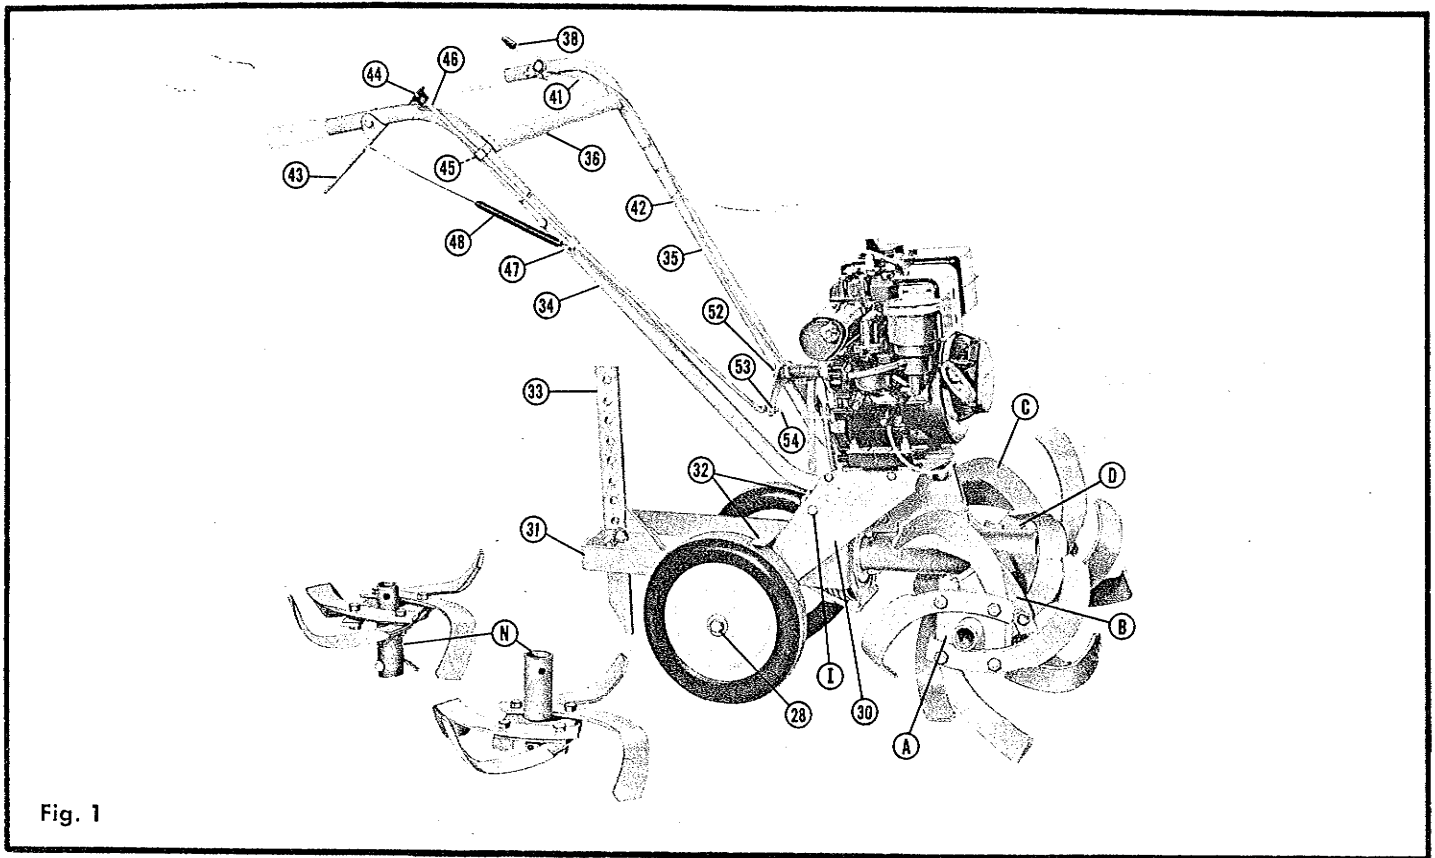
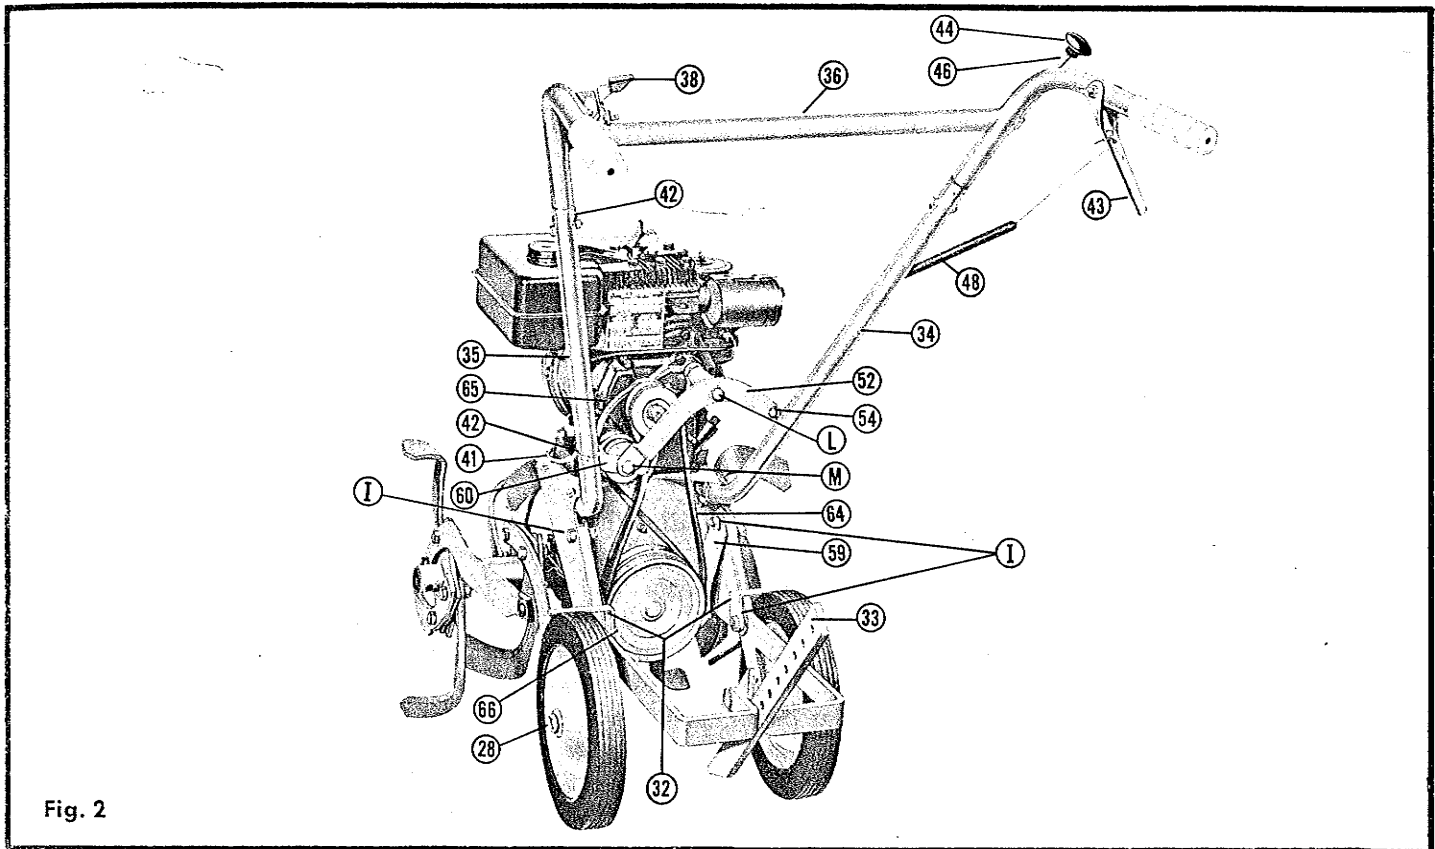

Fig. 1
Fig. 2
The Photographs on pages 2 (Fig. 1) and 3 (Fig. 2) show the tiller completely assembled. Also refer to exploded view on page 6 for proper assembly.
2. Secure the wheel axle bolt to the frame assembly with the second nut (J). You will find two holes for the wheel axle bolt in the frame assembly. Use either hole for the handle height adjustment — upper hole provides lower handle height, low hole — higher height.
4. Install mud scrapers (32) to inside of rear frame assembly as shown in Fig. 2. Position them so that there will be approximately 1/4" clearance between tire and scraper.
1. Uncoil the throttle cable (41), wire, and lever (38) from the engine and string under the blower housing, under the fuel tank and on top of left handle.
2. Install the clips (42) at locations shown in the photographs, Fig. 1 and Fig. 2.
1. To remove the belts, remove the cotter pin (L) holding the idler lever on the engine stud. This will allow the idler lever to move out. Loosen the nut (M) holding the belt retainer (60) on the idler pulley. Loosen the top screws on both sides of the engine bracket which hold the belt guards (59) on the lower pulleys so that the belt guards can be moved outward which will facilitate removing the belts from around the lower pulleys.
2. Remove the forward drive belt (64). After this belt has been removed you will be able to remove the reverse drive belt (65).
4. Reset the belt retainer (60) on the idler pulley to original angular position, as shown in Fig. 2. **This adjustment is very important.** Tighten the nut so that the belt retainer is secure. Reinstall the idler lever and idler lever spring, being sure to put 1½ turns on the spring. Hook the spring under the engine pulley belt stop and under the idler lever. NOTE: This adjustment is very important as it allows the idler lever to float without pressure being exerted on either of the drive belts when idling. Reinsert the cotter pin.
6. Reset belt guards (59) and tighten screws.
7. To compensate for belt stretch, use shims (69) to raise engine.
Fig. 1 illustrates the tine arrangement as your Roticul was shipped. It will till 20½ inches wide as standard; the extra tine set will allow tilling width of 29 inches. The tine set consists of two tine extensions (N) (Fig. 1), a left hand and right hand assembly. To install the extension tines, place long hubs of the extension tines over hubs of tines previously installed, and secure with pin and spring clip. Be sure the extension tines are